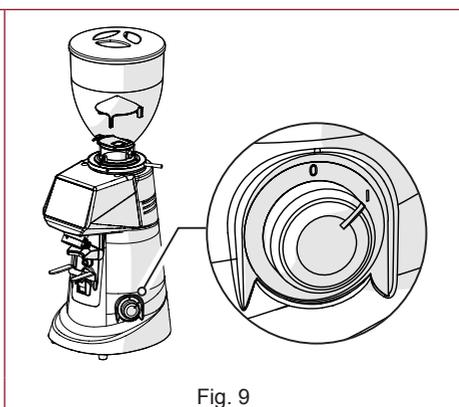

Fig. 9
- Turn the machine power switch (Fig. 9) to the 'I' position.